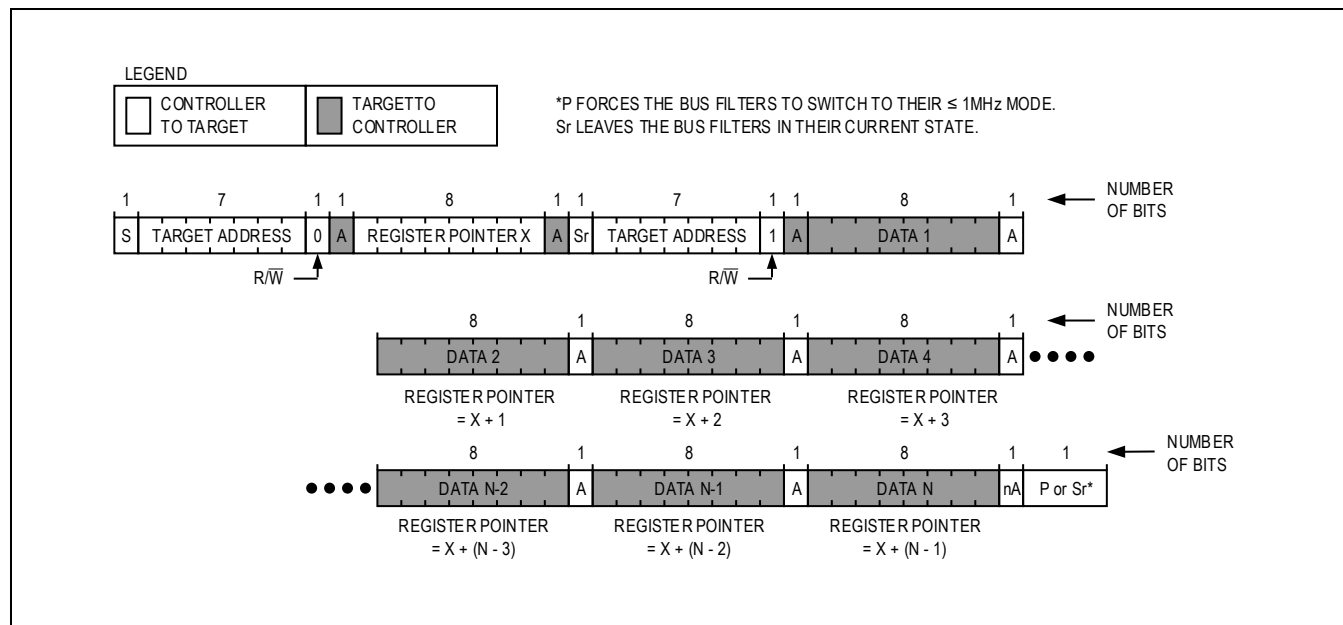

Figure 15. Reading from Sequential Registers
Figure 15 shows the protocol for reading from sequential registers. This protocol is similar to the “Read Byte” protocol, except the controller device issues an ACKNOWLEDGE (A) to signal that the target device wants more data. When the controller device has all the required data, it issues a NOT-ACKNOWLEDGE (nA) and a STOP condition (P) to end the transmission.